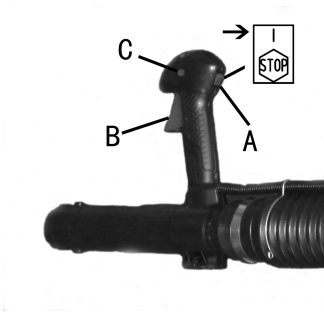

Fig.9
1. Make sure ignition switch (A) is in the ON (I) position (Fig.9).